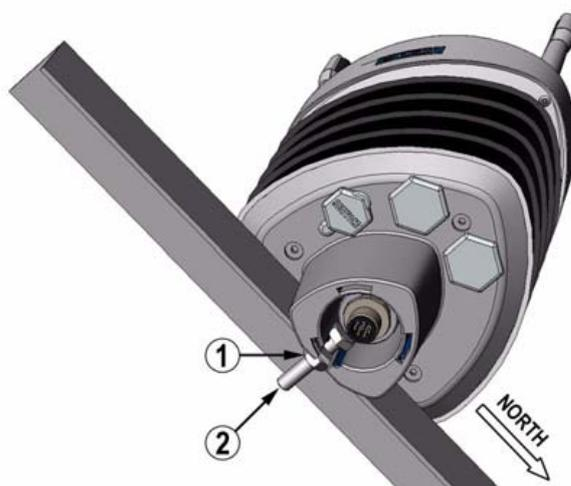

Figure 10 Mounting WXT510 to Cross Arm (L-Profile)
3. Mount the transmitter into the cross arm by using the fixing screw (M6 DIN933) and a nut, see Figure 9 on page 30 and Figure 10 on page 31.
The following numbers refer to Figure 10 on page 31: